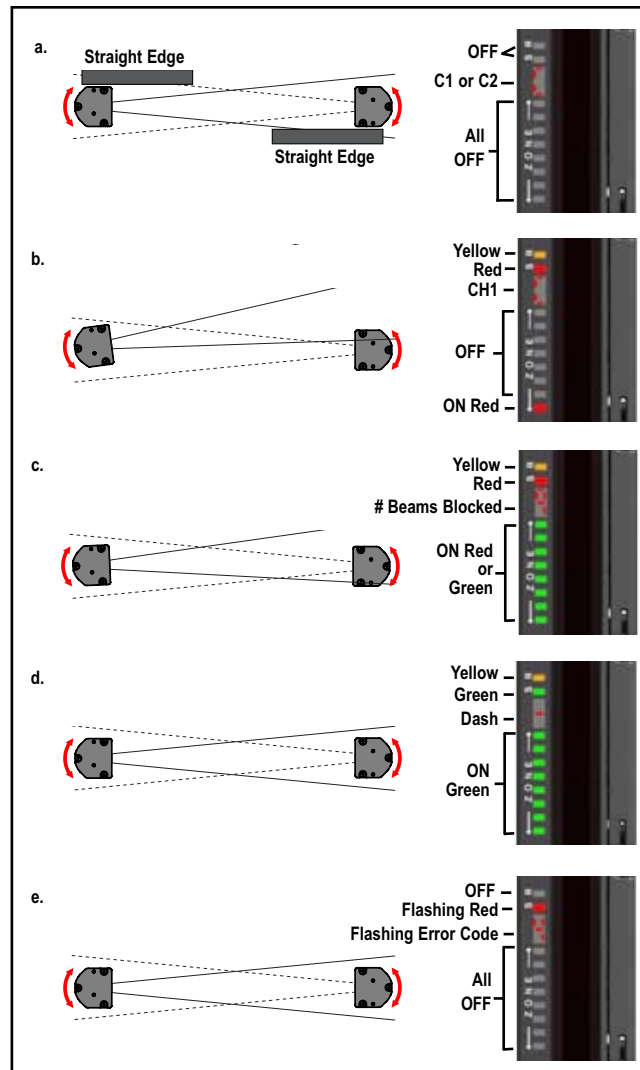

Figure 3-14. Optimum optical alignment
- a. Ensure the emitter and receiver are pointed squarely at each other. A straight edge (e.g., a level) can determine the direction the sensor is facing (see Figure 3-14). The sensor face must be perpendicular to the optical axis.
- d. To optimize alignment and maximize excess gain, slightly loosen the sensor mounting screws and rotate one sensor left and right, noting the positions in each arc where the Status indicators turn Red (Blocked condition); repeat with the other sensor (see Figure 3-14). Center each sensor between those two positions and tighten the mounting screws, making sure to maintain the positioning as the screws are tightened.